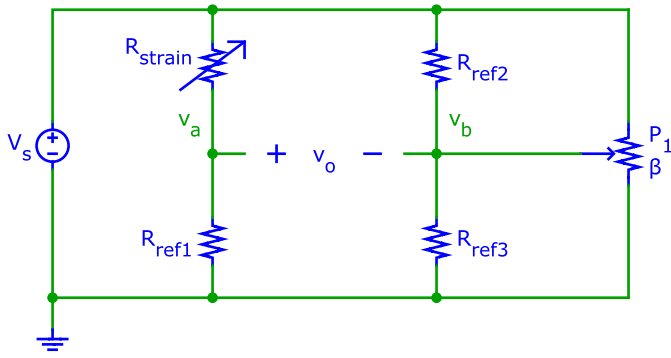

Figure 4 Full bridge circuit with potentiometer for offset adjustment.
If we add a potentiometer in parallel with R_{ref2} and R_{ref3} as shown in Figure 4 on page 5, we can adjust v_b and hence the offset the bridge simply by turning the adjustment knob.